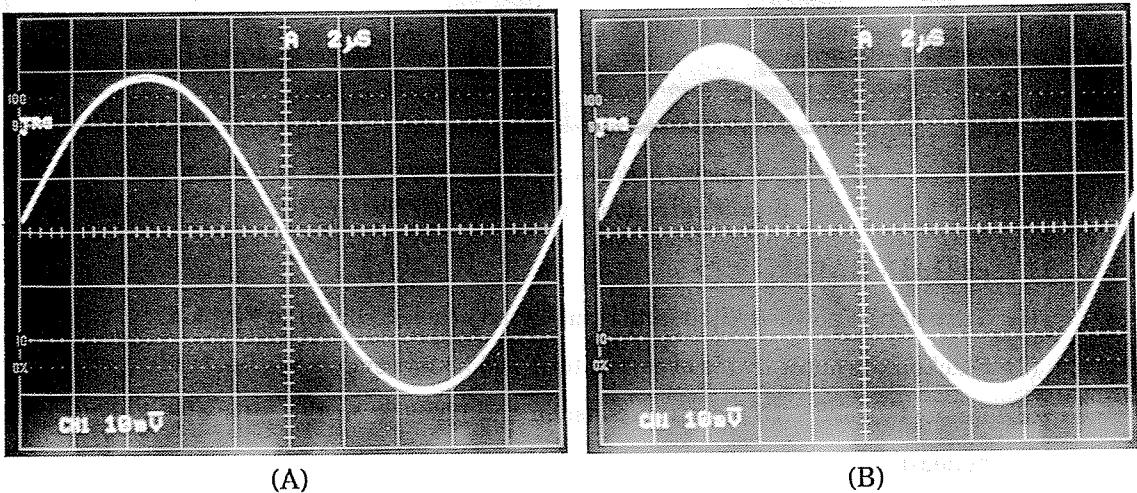

Fig. 4-42 Storage waveform obtained when adjusting 2μs sweep
- (5) Perform initial setting of the instrument in accordance with Table 4-3.
- (6) Apply a 50kHz sin wave from constant amplitude generator to CH1 input, and adjust the signal output so that the waveform on the CRT screen is 6 DIV.
- (7) Set "TIME/DIV" to  $2\mu\text{s}/\text{DIV}$ , and set "STORAGE/REAL" to "STORAGE".
- (8) Confirm that a clean sine wave appears on the CRT screen, as shown in Fig. 4-42 (A). If the waveform contains a chopped component, as shown in Fig. 4-42 (B) adjust CH1 GAIN ADJ (RV1) on board A15 shown in Fig. 4-44.
- (9) Set "VERT MODE" to CH2 ONLY, and connect the signal output to CH2.
- (10) Confirm that a clean sine wave appears on the CRT as shown in Fig. 4-42 (A). If the waveform contains a chopped component as shown in Fig. 4-42 (B) adjust CH2 GAIN ADJ (RV2) on board A15 shown in Fig. 4-44.
- (11) Turn off the power switch, and reinstall the board.